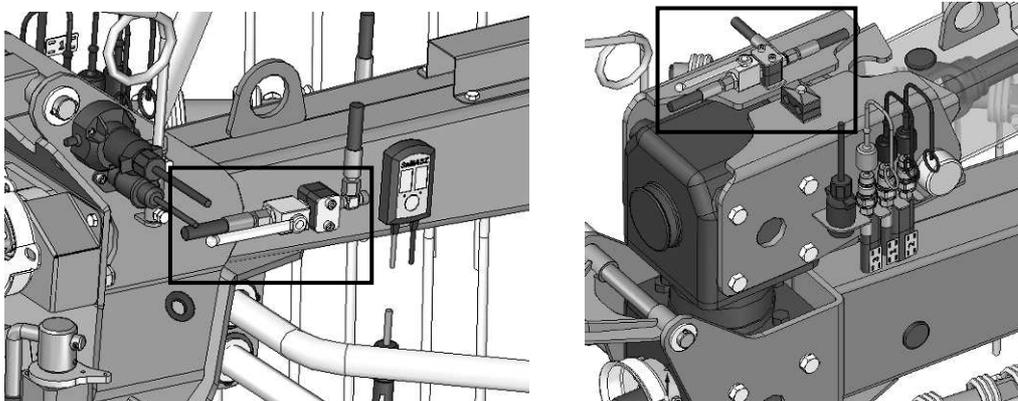

Fig. 16. Location of shut-off valve on rake **DUO 680**
- lift rake up to transport position, close shut-off valve for oil delivery to tractor located on carts' cylinder's hose. Location of valve is provided in **Fig. 16**.